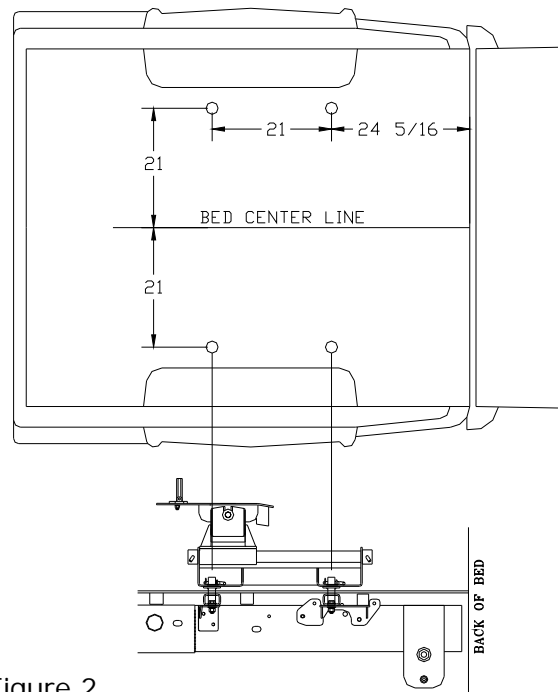

Figure 2
1. Measure and mark, using a square at the back of the bed, forward **24-5/16"**. Do this at any point on both sides of the bed. See Figure 2 on Page 8 for example.
1. Measure and mark from the rear pilot holes forward 21" on both sides. See Figure 2 for example.